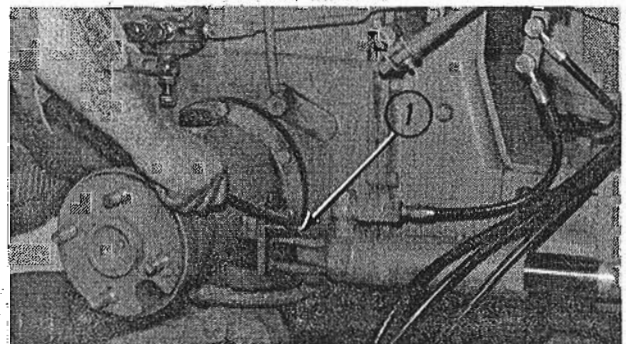

FIG. 3
- (3) Electrical junction block under seat.
- (4) Hydraulic steering cylinders at the axle housing by removing (4) 10 x 30mm. bolts each side. (1, Fig. 3)